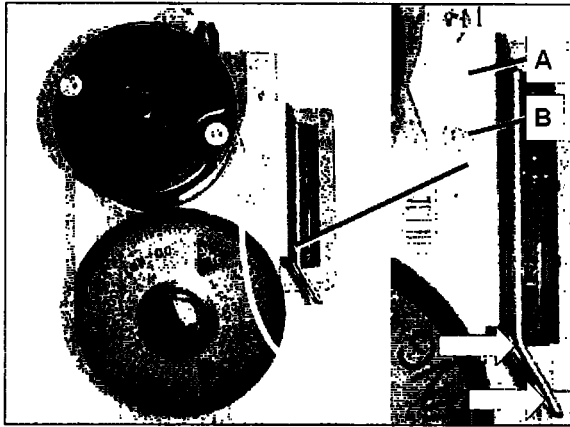
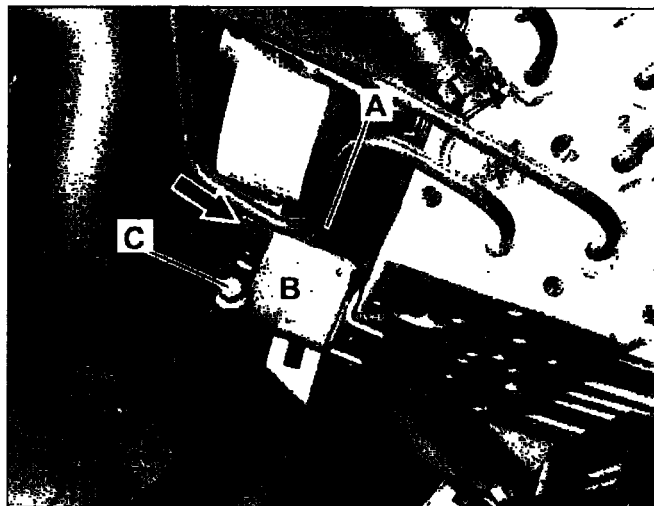

Figure 17
Figure 19
- Using hand tools, tap threads into SBC hydraulic unit bores by running self tapping screw (B, Figure 17) into lower bore **without** mounting bracket positioned on SBC unit.
- In order to avoid breaking the self-tapping screw (B) during installation, the screw (B) must be **positioned absolutely straight**.
- In the event self tapping screw (B) is broken during installation of bracket (A) perform step 18 then continue with campaign (installation of bracket due to breakage of mounting screw will **not** be covered under warranty).
- Remove self tapping screw (B).
- Position bracket (A) on SBC hydraulic unit, reinstall self tapping screw (B) and torque to 7 Nm.
18. Install clamp-on mounting bracket (B, Figure 19):
- Position mounting bracket (B) onto SBC hydraulic unit (A) as shown in Figure 19.
- Ensure mounting bracket (B) is flush with SBC hydraulic unit (A).
- Torque mounting clamp screw to 5 Nm while pressing bracket (B) onto SBC unit (A).
19. Insert a cable tie through slots (arrows, Figure 17) in bracket, **do not** close cable tie.